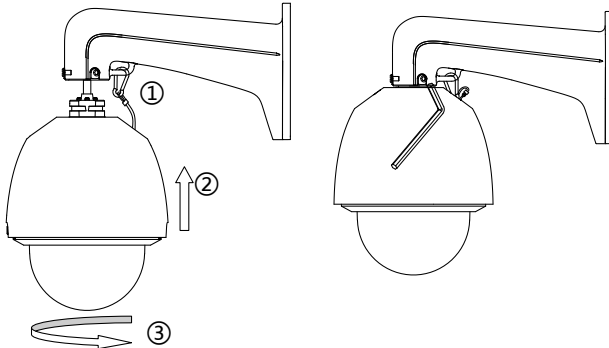

Figure 1-7 Install the Speed Dome
1. Hang the safety rope to the speed dome and then hook to the mount as shown in Figure 1-7(left).
5. Fasten the two lock screws with the Allen wrench, as shown in Figure 1-7(right).